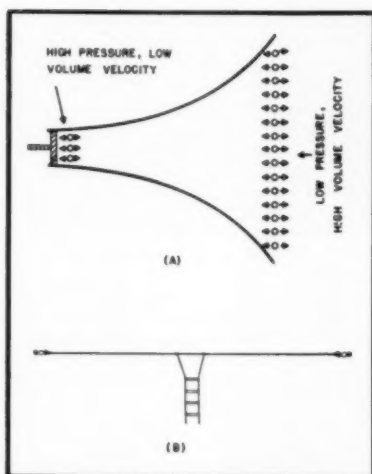

Fig. 11-12. (A) the acoustical horn as an impedance matching device (B) the same principle used in matching an antenna to a transmission line. (Delta match)
The horn as an impedance-matching device is illustrated at (A) in Fig. 11-12. The condition of high pressure and low volume velocity of the air in immediate contact with the vibrating source is gradually transformed to the low pressure and high volume velocity at the horn's mouth. The impedance discontinuity between each layer of air in the horn is very small, so that reflection does not occur.
In Fig. 11-12, (B) is an electrical "horn" whose operation is analogous to the acoustical device. This horn is an actual impedance matching device used in connection with matching an antenna to its transmission line; the increased spacing between conductors changes the capacitance, and hence the total line impedance, and at such a gradual rate that